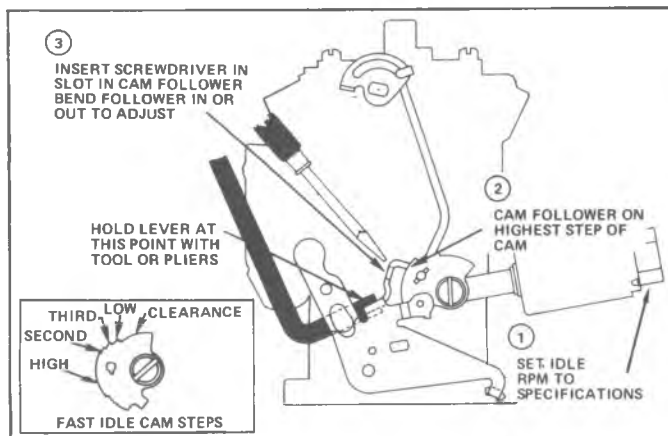

Fig. 1C--Fast Idle Adjustment (Rochester MV)
**FAST IDLE ADJUSTMENTS (Figs. 1C, 2C and 3C) ROCHESTER MV AND 4MV**
- b. Bend fast idle tang on throttle lever as required on Rochester MV to specified speed (Fig. 1C).